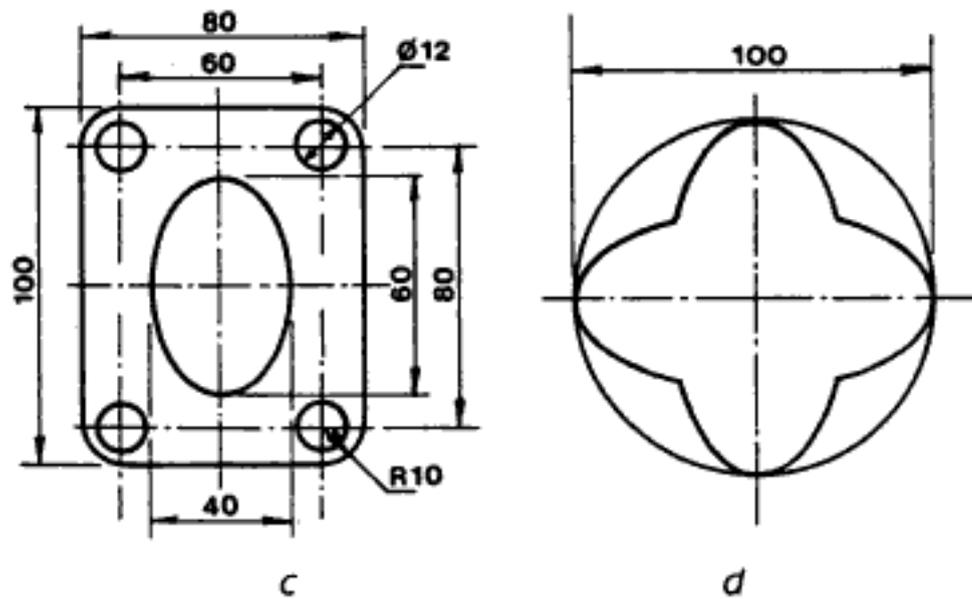

Fig 5.29a-d Views of constructions
- 4 Construct the view of the elliptical gland, as shown in fig 5.29a. Insert dimensions and print a title.